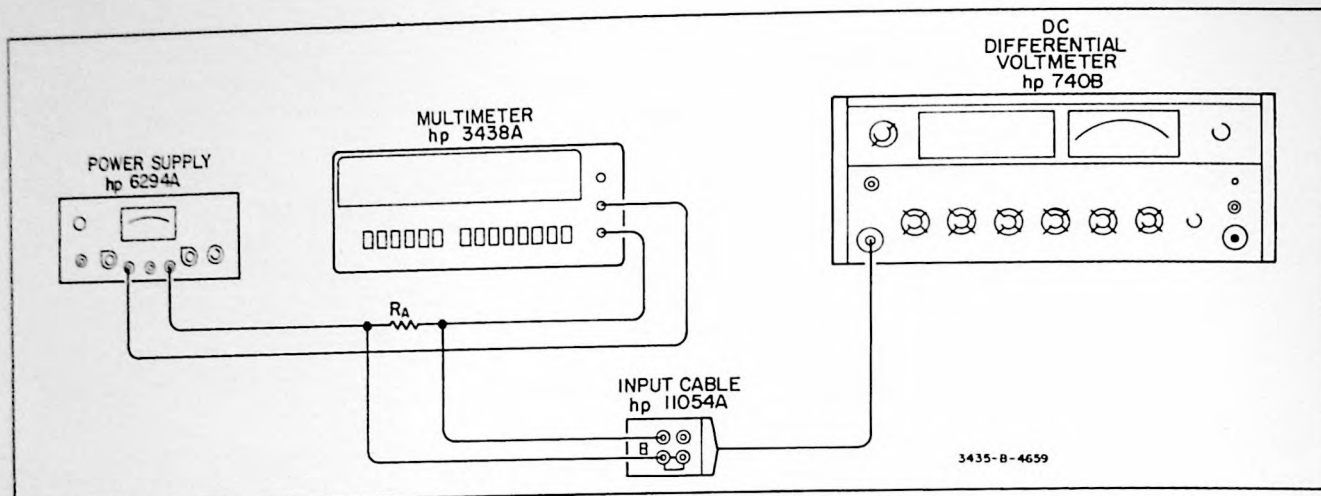

Figure 4-3. DC Ammeter Accuracy Test.
- Connect the Multimeter and test equipment as shown in Figure 4-3.